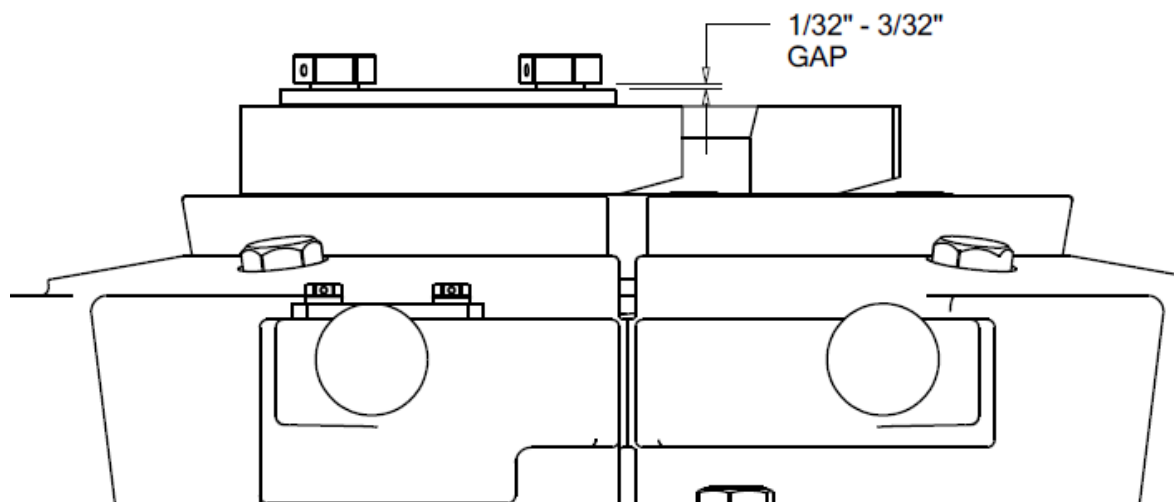

Figure 2
- ▶ Tighten all insert retainer screws. Then tighten the setting plate bolts to a maximum torque value of **20 ft-lb.** ensuring there is a **1/32" to 3/32" gap** between the underside of the bolt head and the washer or setting plate retainer. (See Figure 2)